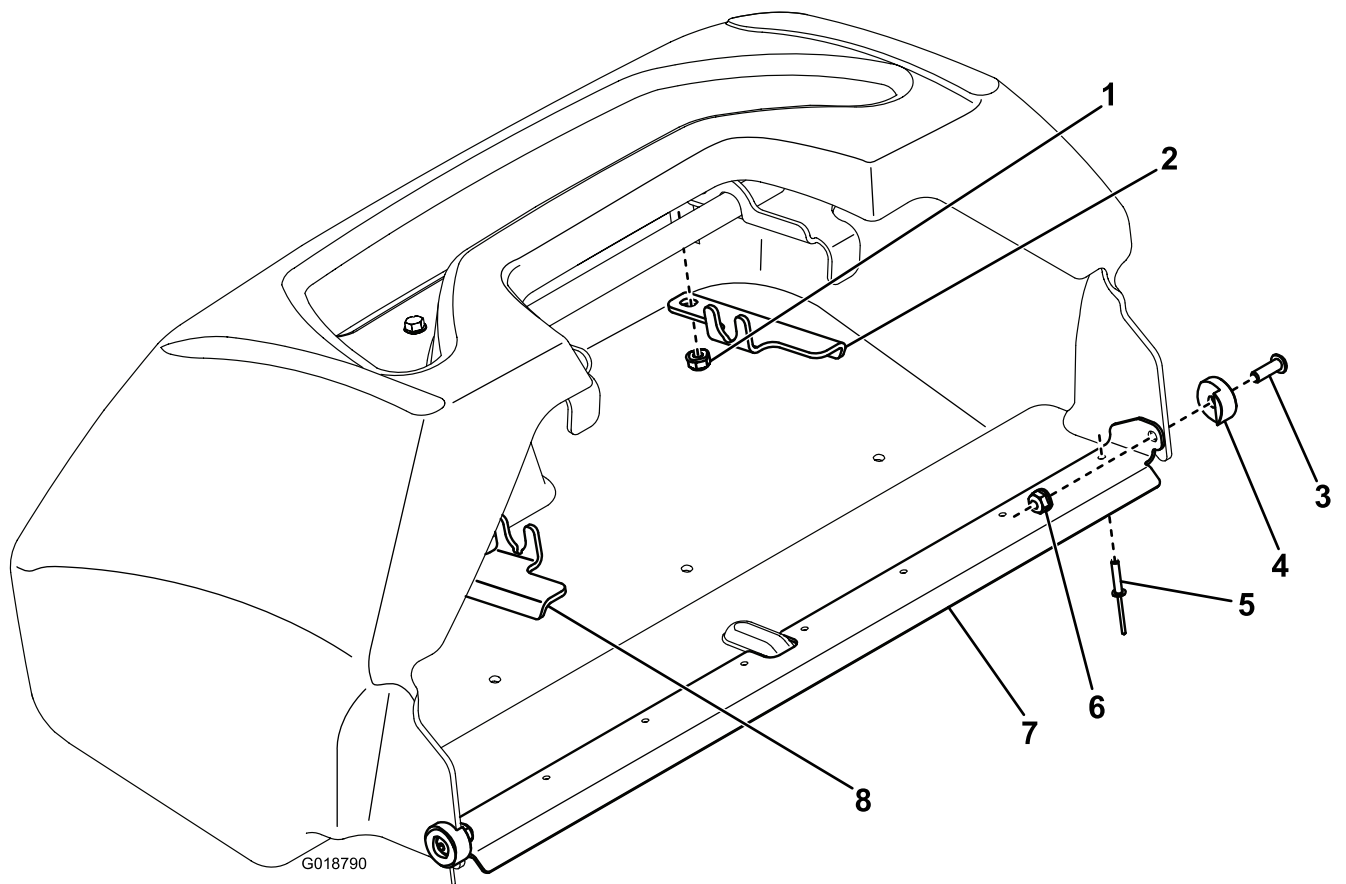

Figure 2
1. Clamp the new basket strip to the front of the basket lining up the notch in the strip with the raised bump on the basket (Figure 2).
2. Drill 8, 4 mm (5/32 inch) holes for the pop rivets using the basket strip as a guide (Figure 2).
3. Connect the basket strip to the basket using 8 pop rivets (Figure 2).
4. Drill 2, 6.75 mm (17/64 inch) holes using the sides of the basket strip as a guide (Figure 2).
5. Attach the basket bumpers to the basket strip using 2 bolts and flange nuts (Figure 2).
6. Remove the 2 flange nuts securing the bracket bar to the basket (Figure 2).
7. Slide the basket brackets onto the bolts securing the bracket bar and install the previously removed flange nuts (Figure 2).